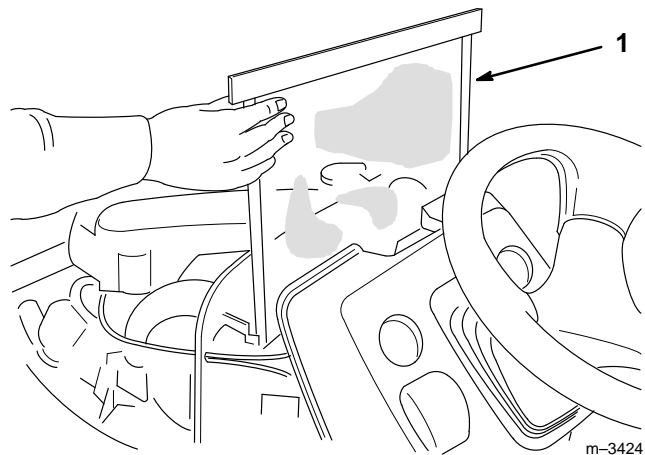

Figure 8
3. The radiator screen (Fig. 8) is located between the radiator and the dash in the tractor. To remove it, pull it up from its retention slot. Wipe or wash off all accumulated debris from the screen, then reinstall it.